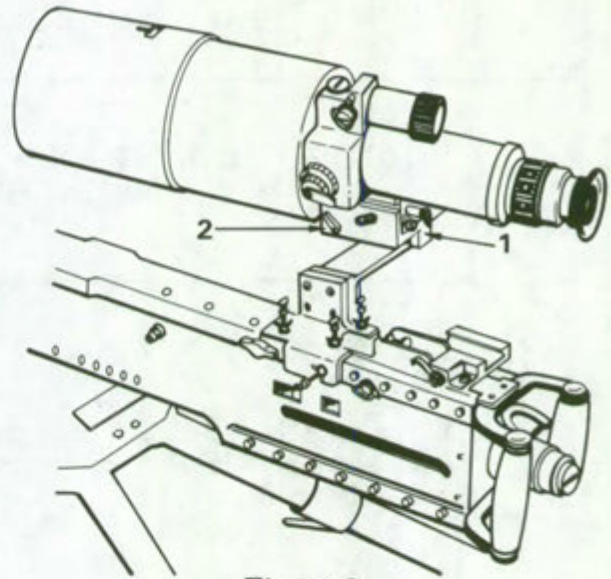

Figure 2.
2. To mount the AN/TVS-2 sight to the weapons adapter bracket (see figure 2), remove the sight from shipping container. Loosen the boresight locking knob (2) by turning it counterclockwise. Slide the sight onto the rear of the dovetail notch on the right mounting bracket and push it to the front. Secure the sight by turning the boresight locking knob clockwise.